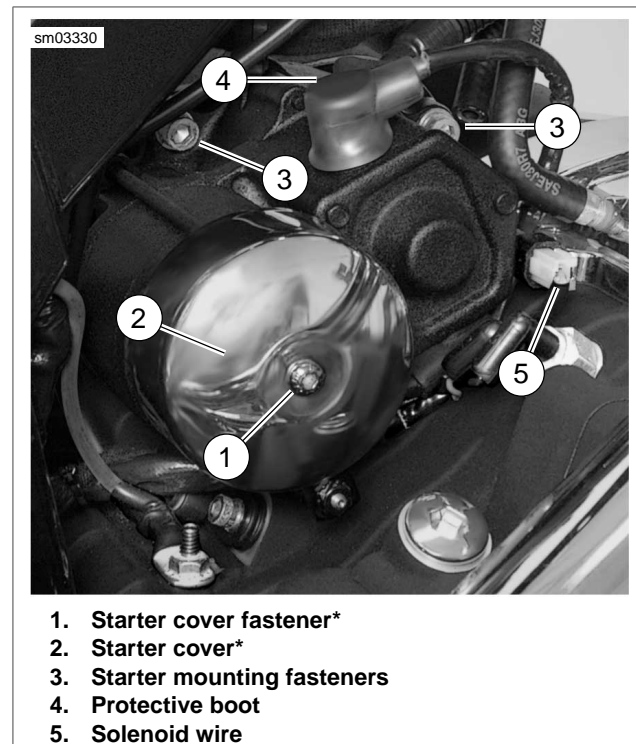

Figure 5-1. Starter
3. See Figure 5-1. Remove starter cover fastener (1) and starter cover (2) from starter.
- a. Remove protective boot (4).
- d. Detach solenoid wire (5).
5. Remove both starter mounting bolts and washers (3).
4. See Figure 5-1. Apply a drop of LOCTITE THREAD-LOCKER 243 (blue) to threads of starter mounting bolts (3).
5. Install the two starter mounting bolts (3) and washers. Tighten to 25-27 ft-lbs (33.9-36.6 Nm).
6. See Figure 5-1. Attach positive battery cable, and solenoid wire (5). Tighten nut (metric) to 65-85 in-lbs (7.3-9.6 Nm). Place protective boot (4) securely over terminal.
7. Attach starter cover (2) using fastener (1).